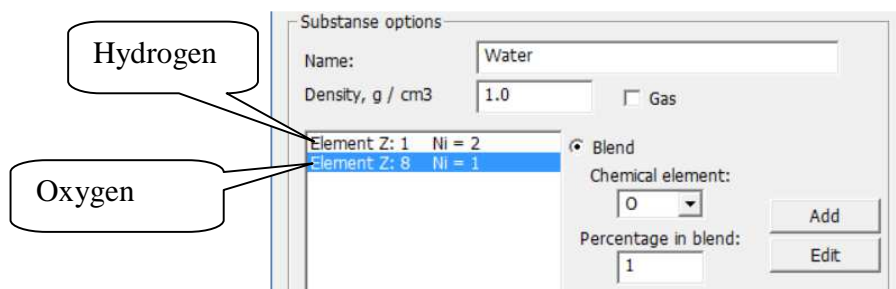

Figure 33. Example of material *Water*
- the parameters of the formed material will appear in the middle field, namely the atomic number of the constituent elements and their share (see Fig.33).